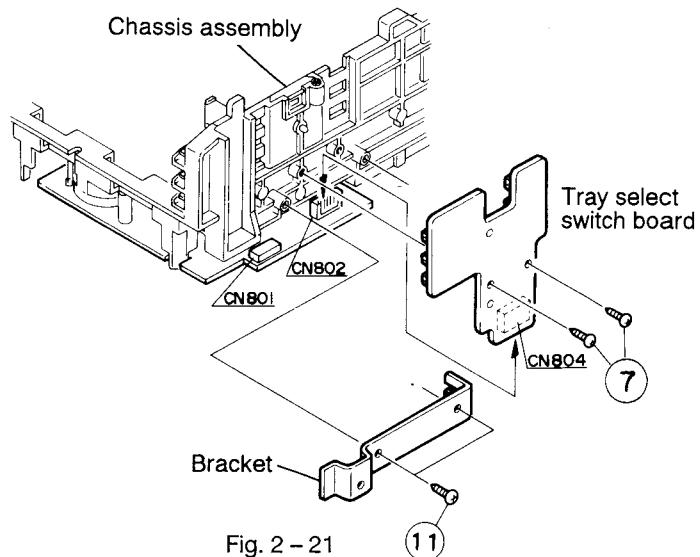

Fig. 2-21
- Remove the two screws ⑥ retaining the actuator motor board (See Fig. 2-21).
- Remove the two screws ⑪ retaining the bracket (See Fig. 2-21).
- Remove the two screws ⑦ retaining the tray select switch board (See Fig. 2-21).